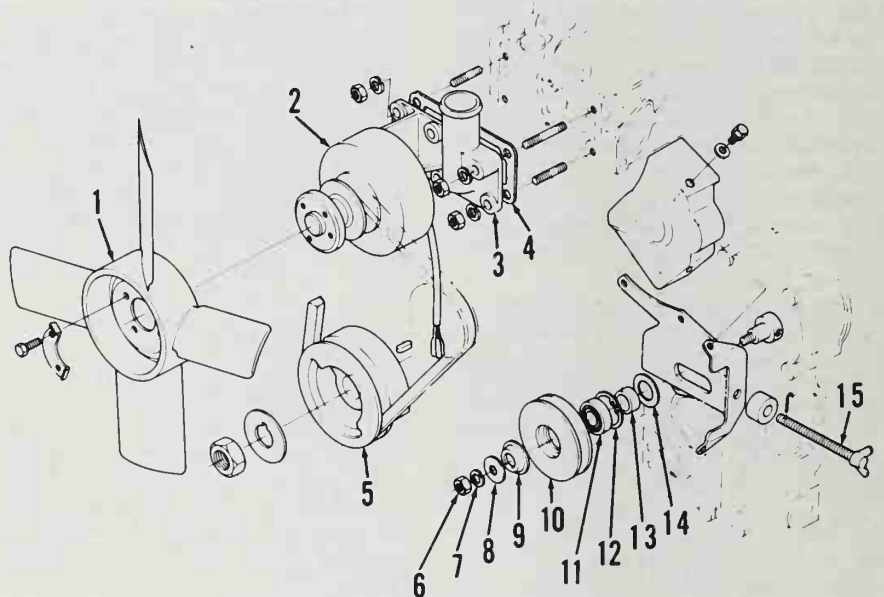

Fig. K2-20 - View of alternator and tensioner pulley.
Alternator (2 - Fig. K2-20) is mounted on water outlet (3) and drives fan (1). The alternator is available only as a unit assembly.